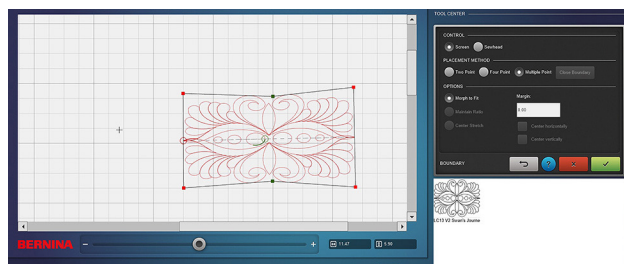

Fig. 45
4. When the fourth point is selected, the design will morph to the boundaries set (Fig. 45).